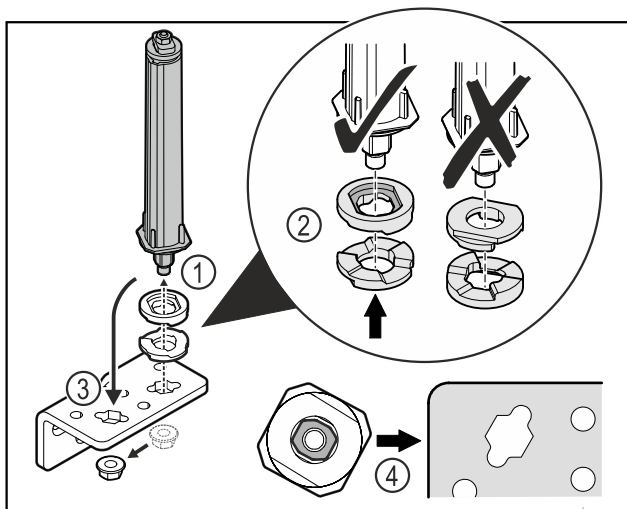

Fig. 41
- Loosen the nut and remove the door closing system Fig. 41 (1).
- Observe the correct alignment of the height adjustment washers Fig. 41 (2).
- Put the door closing system in the hinge and fix in place with the nut Fig. 41 (3).
- Observe the correct alignment of the door closing system when doing so Fig. 41 (4).